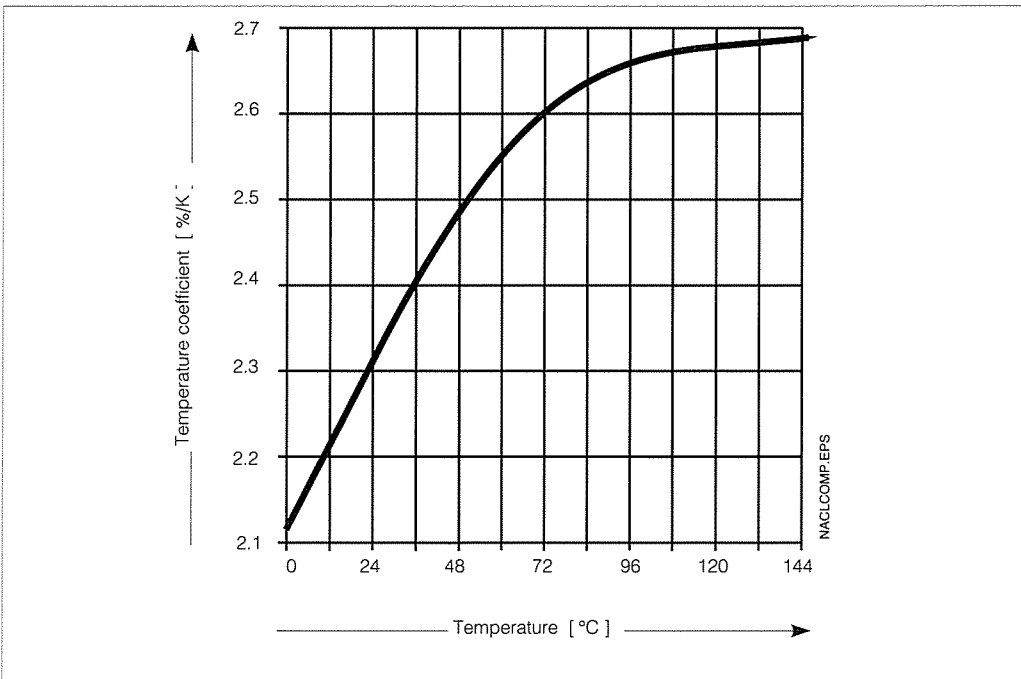

Fig. 6.3: Temperature coefficient of NaCl solutions as a function of temperature
- No temperature coefficient value can be entered for NaCl compensation. The compensation is non-linear according to the temperature curve of the conductivity values of NaCl solutions (value according to DIN IEC 746, part 3). The reference temperature is 25 °C (also see fig. 6.3).